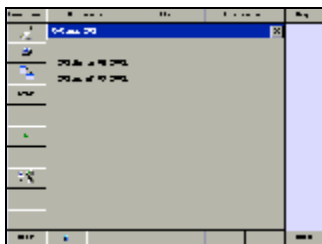

Fig.3.12
8. Select **203 (as of 09/2003)** as shown in Fig.3.12.